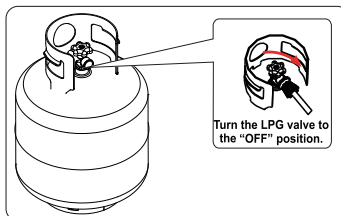

Fig 16
2. Turn off LPG bottle. (See fig 16)